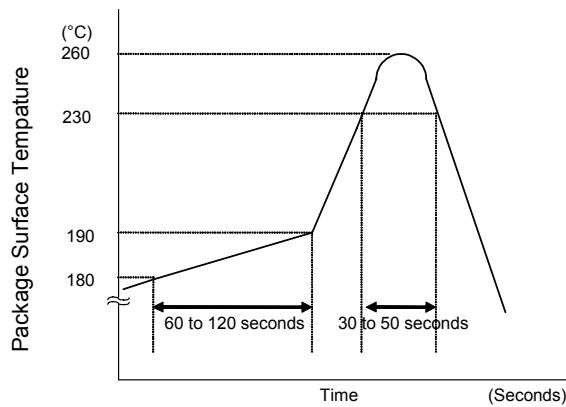

Figure 3.4 Example of Temperature Profile
- (2) Complete the infrared ray reflow process with a maximum package surface temperature of 260°C, within 30 to 50 seconds when a package surface temperature is 230°C or higher.
- (3) Refer to Figure 3.4 for an example of a temperature profile.
- (1) Complete hot air reflow with a maximum package surface temperature of 260°C, within 30 to 50 seconds when a package surface temperature is 230°C or higher.
- (2) For an example of a temperature profile, refer to Figure 3.4 in Section 3.5.3.1 (3) above.